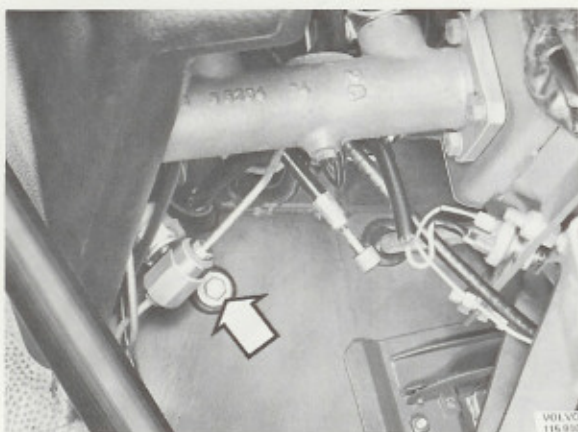

Fig. 26-8. Retaining bolt on side of radiator
5. Remove the retaining bolts on the side of the radiator (1 per side), Fig. 26-8.